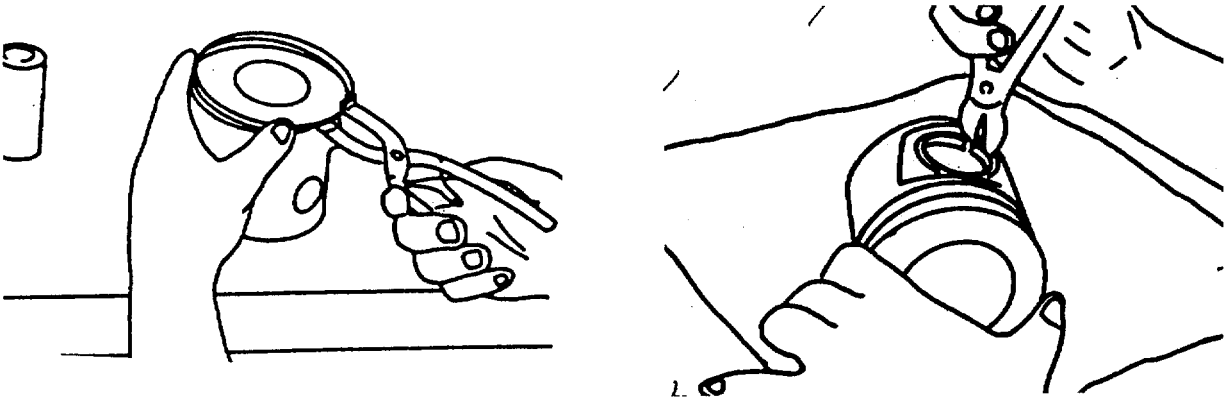

FIGURE 4-34. Removing Piston and Retaining Rings
- a. Remove retaining rings (1, FIGURE 4-34).